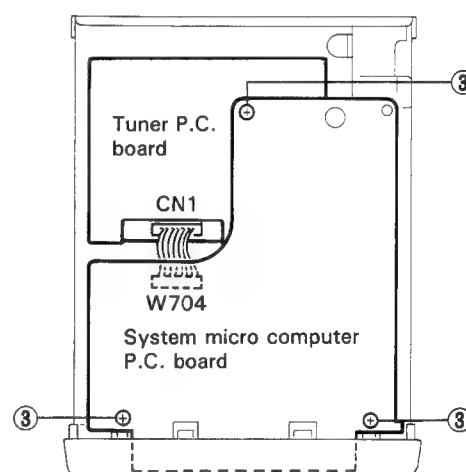

Fig. 7-4
■ Method of removing the system micro-computer P.C. board (Refer to Figs. 7-4 ~ 7-6)
1. From right above the body, remove the three screws ③ retaining the system microcomputer P.C. board.